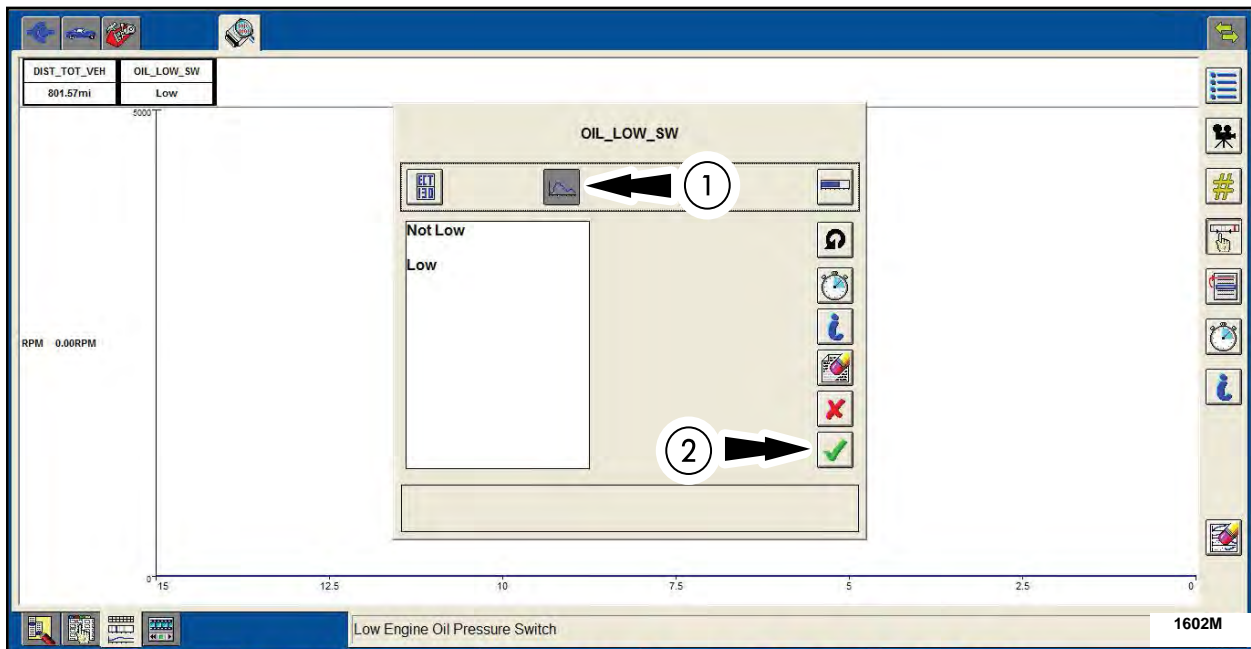

FIGURE 6
5. In the OIL_LOW_SW PID dialog box, select the graph button and then click the check mark. See Figure 6.